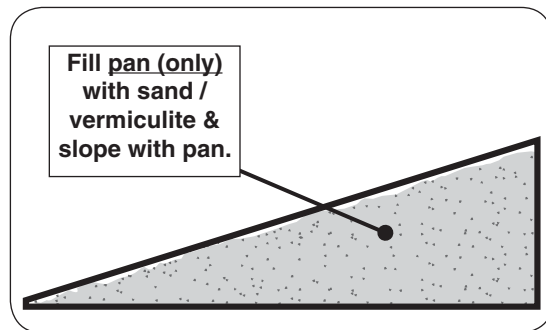

Fig. 13-2 Sand/vermiculite detail
2. Slope the sand/vermiculite at the same angle as the burner pan. This is important to ensure quiet lighting and even flame distribution. See Fig. 13-2.